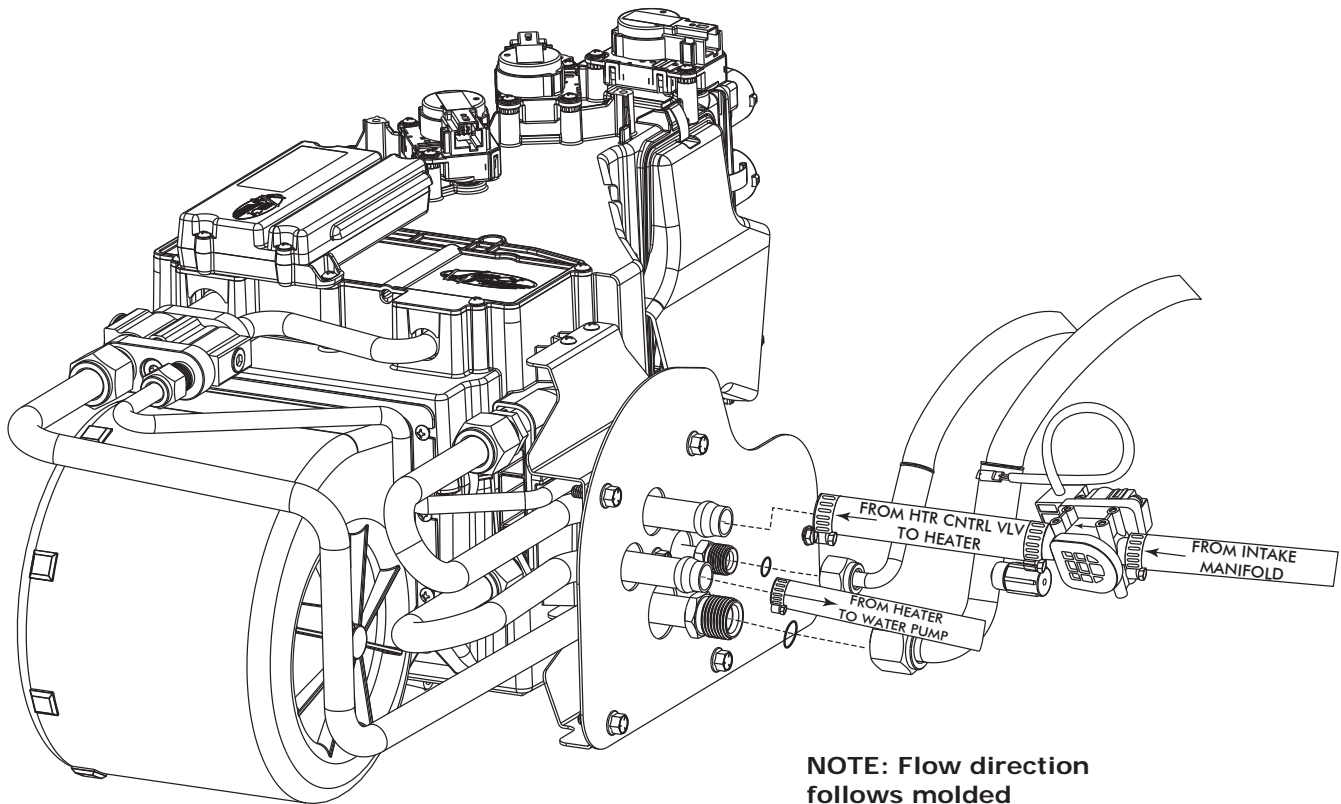

Figure 1
1. Route a length of heater hose from the lower heater hardline to the water pump fitting, then secure it using (2) hose clamps.
2. Cut a length of heater hose approximately 4" to 5" from the firewall cover, then install it onto the upper heater hardline. Install the heater control valve and secure it with (2) hose clamps. **NOTE: Ensure proper flow direction through the heater control valve. The flow direction follows the molded arrow on the valve (See Figure 1, below).**
3. Install another length of heater hose from the heater control valve to the intake, then secure it with (2) hose clamps.